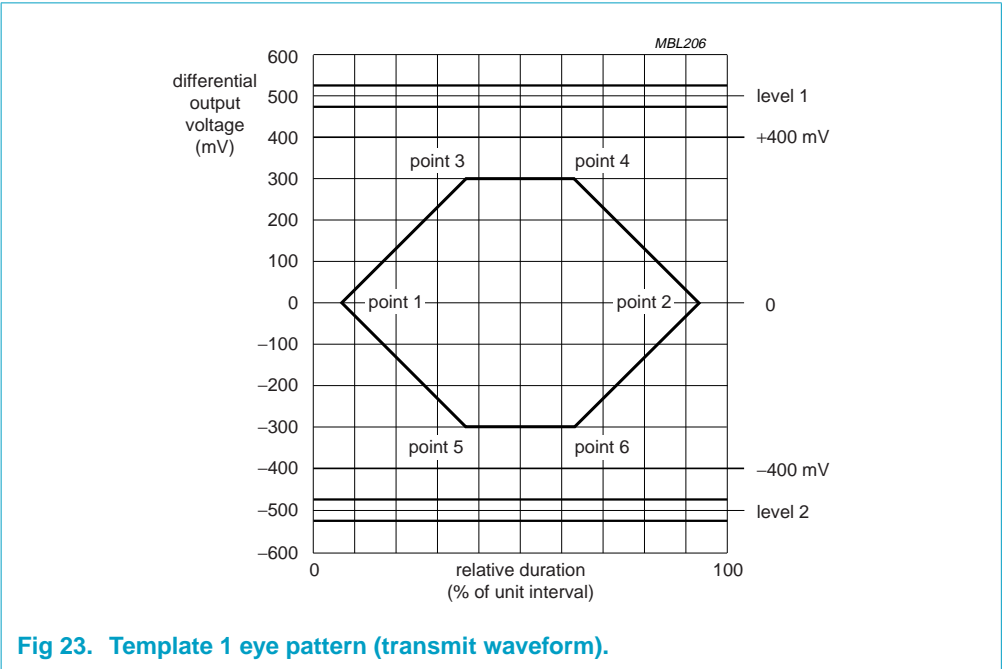

Fig 23. Template 1 eye pattern (transmit waveform).
The eye pattern in Figure 23 defines the transmit waveform requirements for a hub (measured at TP2) or a device without a captive¹ cable (measured at TP3). The corresponding signal levels and timings are given in Table 15. Timings are given as a percentage of the unit interval (UI), which represents the nominal bit duration T_{PERIOD} for a 480 Mbit/s transmission rate.